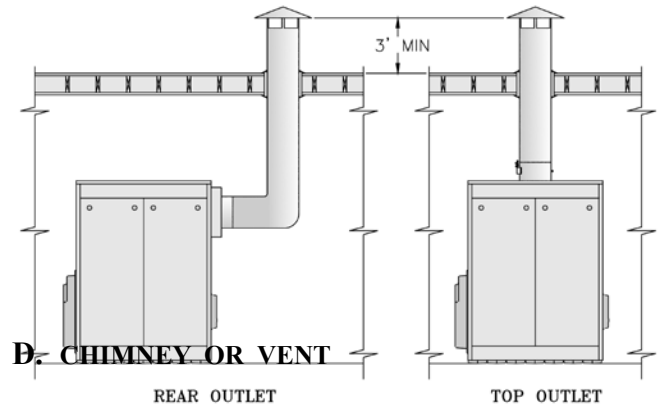

Figure 3a: Typical Arrangement for Stub Vent
The Series 25 boiler is designed for forced draft firing and may be used with a conventional natural draft stack (15' minimum height) or a stub vent, sometimes called a diesel stack (see Figure 3a). See Table I for the proper vent outlet size. For low silhouette vent terminations, see Figure 3b. Draft controls are not normally required, although they may be used on installations where a natural draft stack is used or on multiple boiler installations with a common stack. The boiler is provided with a breeching damper, which should be adjusted to maintain a positive pressure of 0.1" W.C. in the vent connector box during burner high fire operation (see breeching pressure sensing port in Figure 1).
If the venting system is designed for positive or forced draft venting, the boiler, vent connector and stack will operate under positive pressure. Gas tight vent systems designed for pressure systems must be used to prevent flue by-product leakage. The vent height is usually limited to prevent negative draft, typically three (3) feet above the roof line (see Figure 3a). The damper shall be adjusted to maintain a positive pressure of 0.1" W.C. in the vent connector box during burner high fire operation (see breeching pressure sensing port in Figure 1).